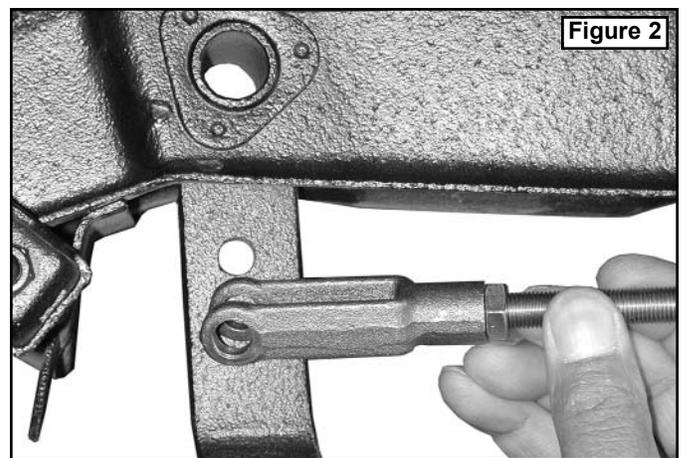

Figure 2
2. Align the holes in the clevis to the hole in the pedal. **(The clevis should be at the side of the pedal as shown in Figure 2.)** You must approximate the distance as close as possible. **You are trying to adjust the pedal height so it is comfortable for you, but not so high that the pedal touches the stop and starts to engage the master. (The push rod should attach with no pressure on the pedal.)** Adjust the push rod to have approximately 1/4" free play at the top of the pedal.